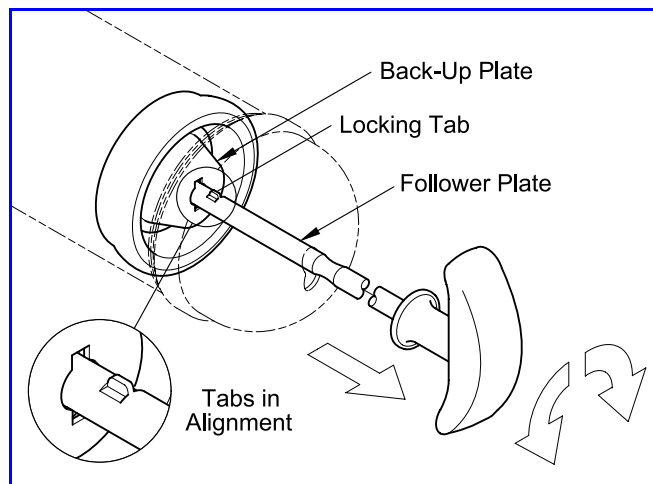

Figure 3 Follower Rod Locking Tabs Aligned with Back-Up Plate
2. Pull the Follower Rod outward from the Cylinder Cap. At the same time, rotate the Rod to allow the Locking Tabs access through the Back-Up Plate. See **Figure 3**.
- See **Figure 3**.